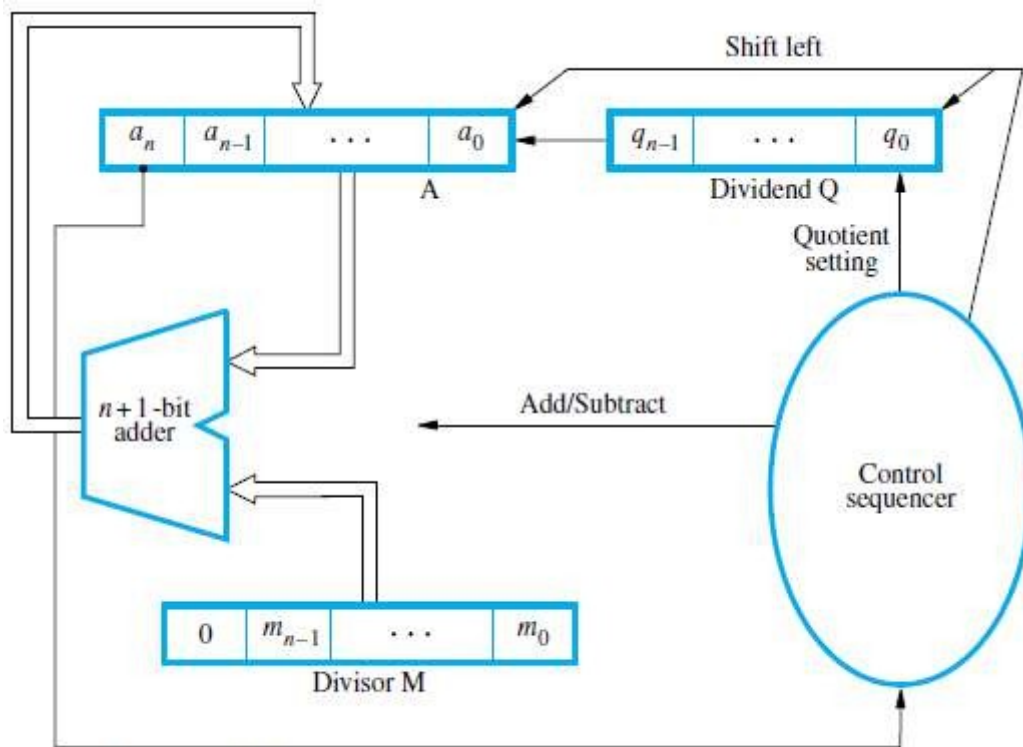

Figure 9.23 Circuit arrangement for binary division.
- i) If the sign of A is 0, shift A and Q left one bit position and subtract M from A; otherwise, shift A and Q left and add M to A (Figure 9.23).